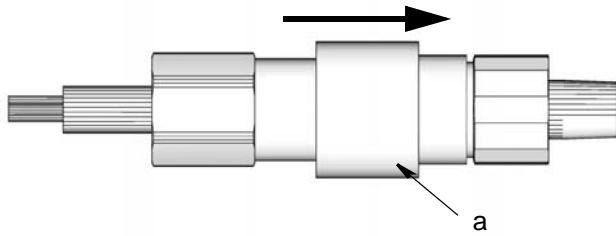

FIG. 2
- After setting is complete, slide adjustment collar (a) (closed), over adjustment chamber opening (FIG. 2).